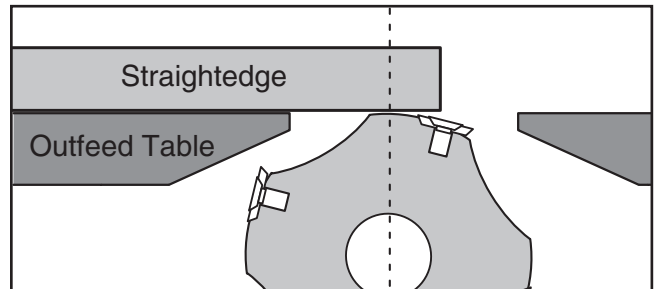

Figure 57. Adjusting outfeed table even with cutterhead body.
- Place straightedge on outfeed table so it hangs over cutterhead, rotate motor pulley so straightedge is between inserts, then lower outfeed table until straightedge just touches cutterhead body, as shown in **Figure 57**.